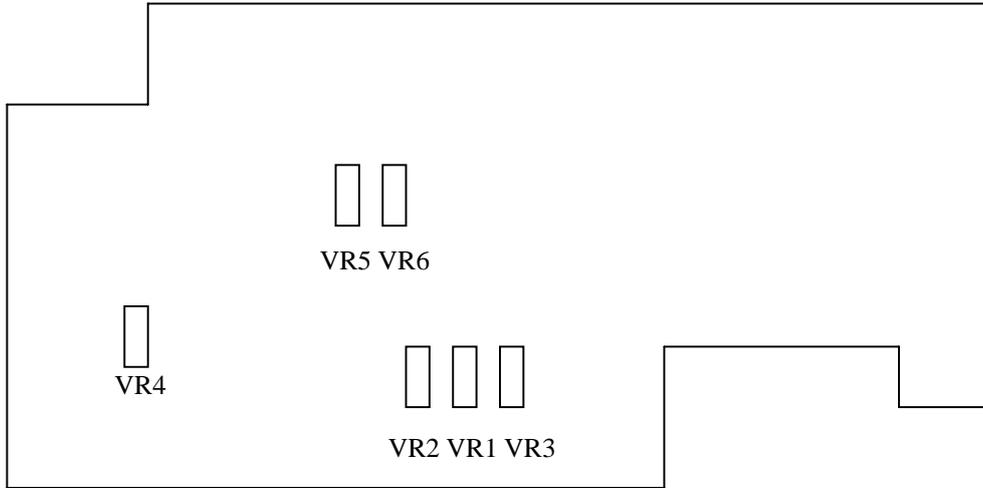

Figure 2.
② The PCB of e-load is shown as Figure 2. Set the output of the Fluke 341 to 35V, adjust VR2 on the board until the voltage value displayed on the Eload is  $35.00V \pm 0.02\%$
③ Set the output of the Fluke 341 to 3.5V, adjust VR1 on the board until the voltage value displayed